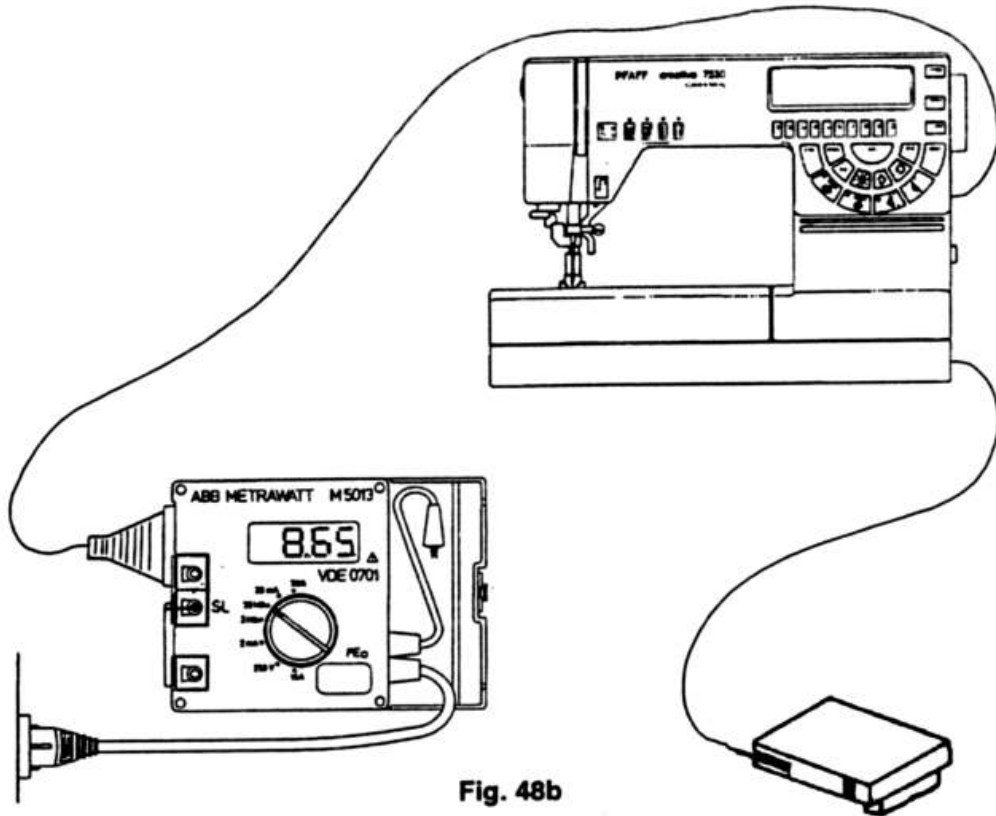

Fig. 48b
- Set knob for measuring range at "20 M Ohm" (fig. 48b).